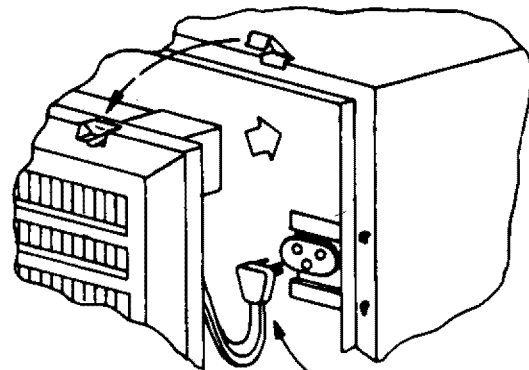

FIGURE 13
1. Unsnap the six louver clips. Use a small screwdriver. See Fig. 13.